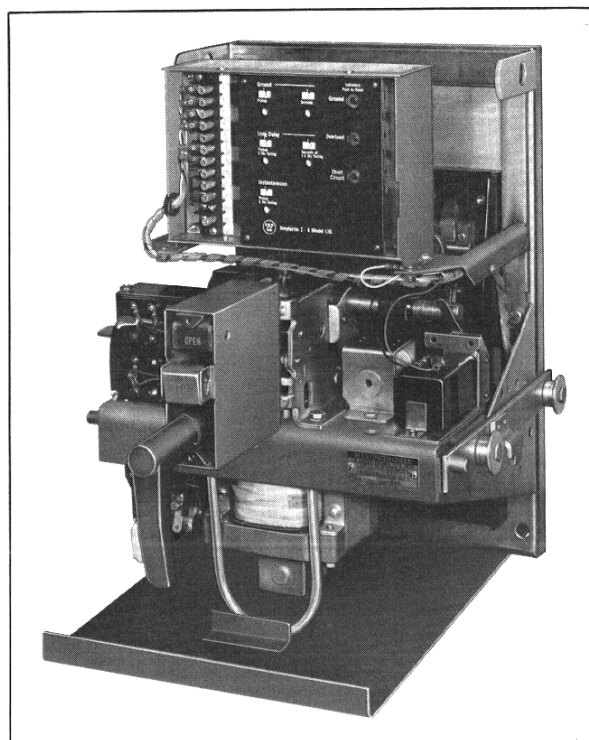

Fig. 13 *Actuator Mounted and Wired on a DB-25 ACB*
4. Connect the black wires to the Actuator using the .138-32 nut lock and flat washer, see Fig. 13, being careful to observe polarity marks on one wire.